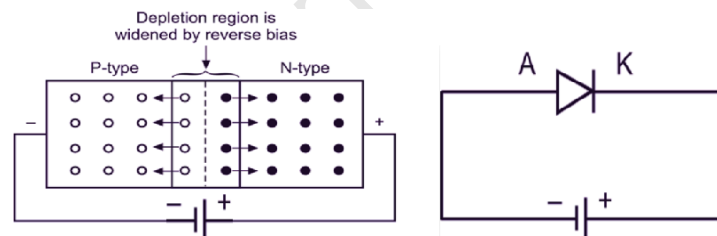

Figure 1.5: Reverse Biasing of the Diode
- The Fig. 1.5 shows the reverse biased diode. The reverse voltage across the diode is  $V_R$  while the current flowing is reverse current  $I_R$  flowing due to minority charge carriers. The graph of  $I_R$  against  $V_R$  is called reverse characteristics of a diode.